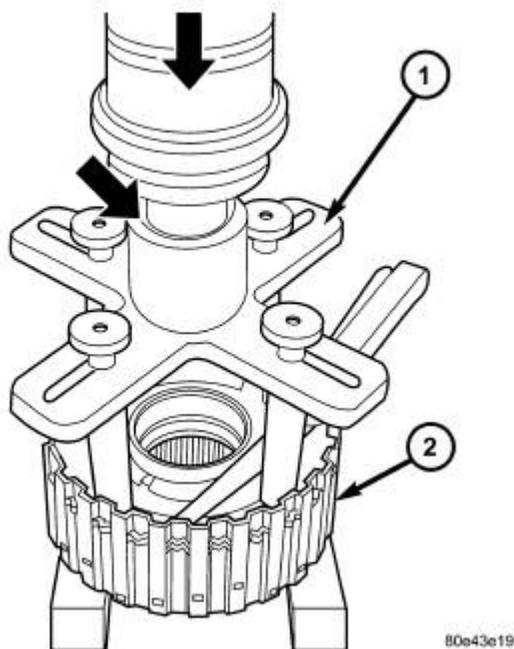

Fig. 151: Measure K3 Clutch Clearance
7. Measure the K3 clutch clearance by mounting Pressing Tool 8901A (1) on outer multiple disc. Refer to **Fig. 151**.